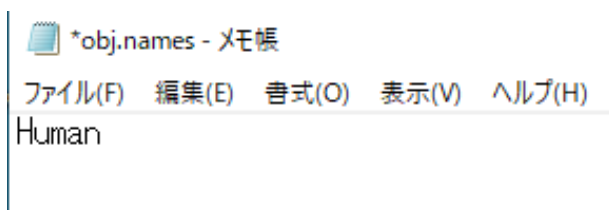

Fig. 5.2 Example configuration for obj.names
- (c) In obj.names (C:¥MTT-V002¥1.dataset¥obj.names), enter the tag that you set when you annotated. The default setting is "Human" as shown in Figure 5.2. If you are not sure what kind of tags will be included in the annotation data, open it with notepad or something and check it out because it is listed in C:¥MTT-V002¥4.data¥PascalVOC-export\_test¥pascal\_label\_map.pbtxt.